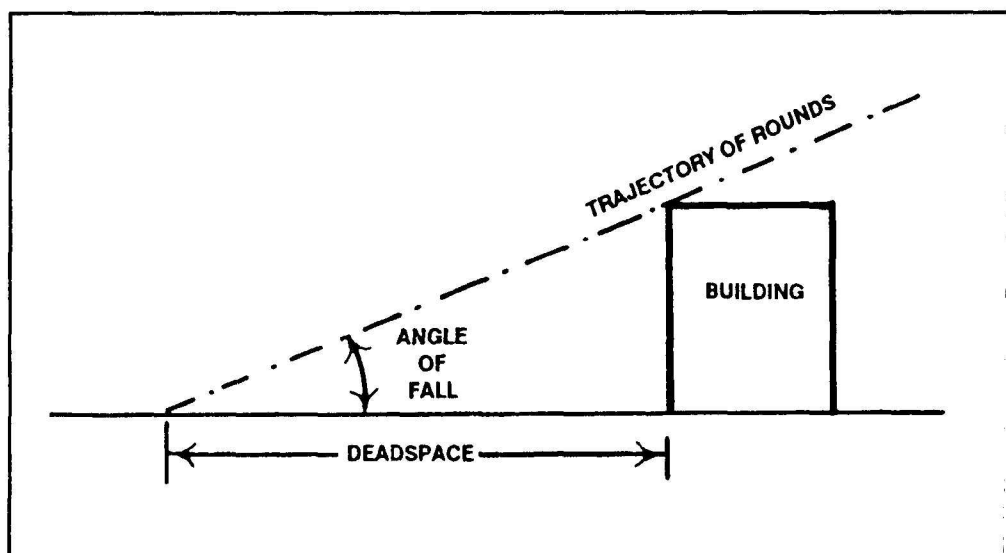

Figure 8-20. Indirect-fire dead space (low angle).
(1) Weapons of at least 155-mm are necessary against thick reinforced concrete, stone, or brick walls. Even with heavy artillery, large expenditures of ammunition are required to knock down buildings of any size. Tall buildings also create areas of indirect-fire dead space, which are areas that cannot be engaged by indirect fire due to a combination of building height and angle of fall of the projectile (see Figure 8-20). Usually the dead space for low-angle indirect fire is about five times the height of the highest building over which the rounds must pass.
(2) Even when it is theoretically possible to hit a target in a street over a tall building, another problem arises because of range probable error (PE).